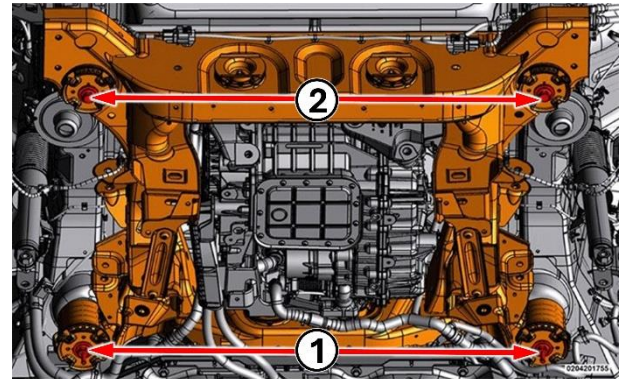

Figure 24 – Rear Cradle
- 56. On each side of the vehicle, remove the cradle bolts (Figure 24).
- 57. On each side of the vehicle, remove the cradle studs (Figure 24).